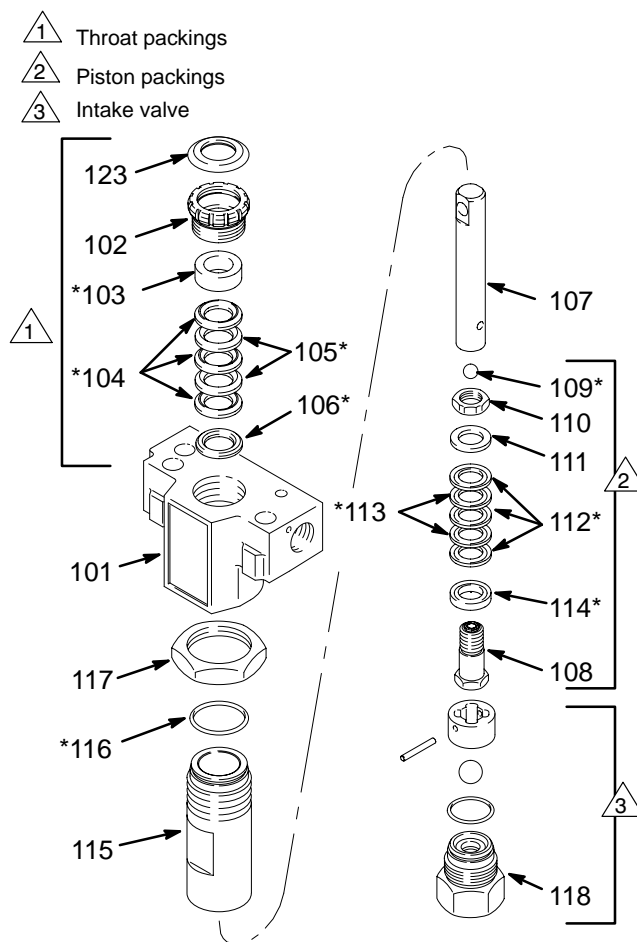

Fig. 19
Disassembling the pump (See Fig. 19.)
NOTE: Alternate plastic and leather packings. See Fig. 19. The lips of the throat V-packings face down. The lips of the piston V-packings face up. Incorrect installation damages the packings and causes pump leakage.
1. Check the outside of the piston rod (107) and the inside of the cylinder (115) for wear. Replace worn parts to ensure a good seal with the new packings.
2. Stack these parts onto the piston valve (108) one at a time: the female gland (114*), alternately three plastic (112*) with two leather packings (113*), and the male gland (111*). See Fig. 19.